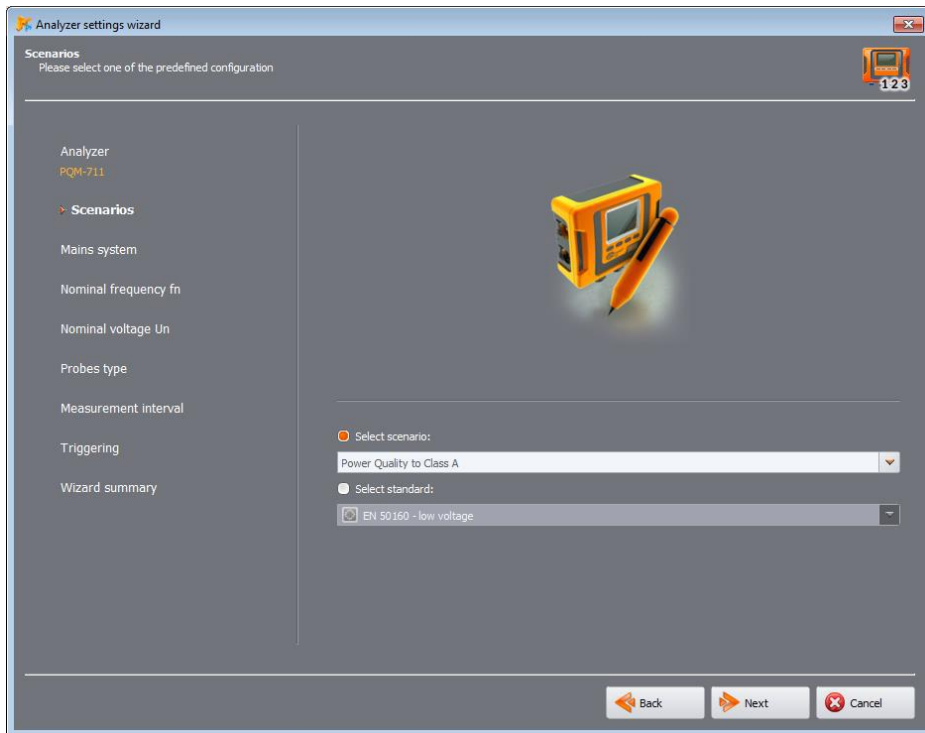

Fig. 14. Settings wizard - Scenario selection.
- **SCENARIOS** (Fig. 14) – at this stage, user selects the type of measurements, these are two mutually exclusive possibilities: